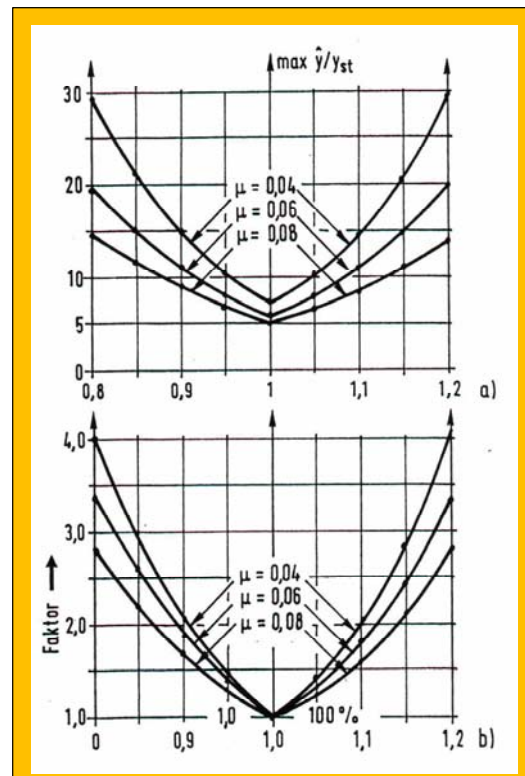
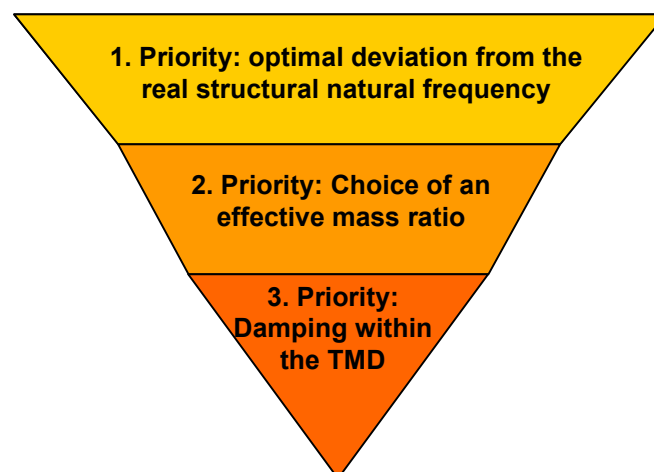

Fig. 8: Amplitude amplification factor in case the optimal deviation does not fit
Fig. 10: Priorities of three main adaptation criteria
The optimal natural frequency of the TMD is not identical with the natural frequency of the structure! The TMD frequency is out of tune to the structural frequency by a well defined value, which is the deviation with a big influence on the final efficiency of the TMD (chapter 2.1). Therefore the structural natural frequency and the kinetic equivalent structural mass has to be known. Due to the complexity of structures and the lack of knowledge of stiffness values (soil, bearings, etc.), it is usually difficult to determine exactly the natural frequency of the structure to be damped. This is valid also for the kinetic equivalent mass. In the upper part a) of Fig. 8 the value $\max \hat{y}/\hat{y}_{st}$ for the three different mass ratios 0.04, 0.06 und 0.08 is shown along the relation k/k_{opt} (on horizontal axis).
- 1) The most important criteria is the optimal deviation (Fig. 10) from the structural natural frequency. In case the TMD frequency including the defined value for the deviation is not optimally fitting to the structure, already small frequency deviations can result in major efficiency loss of the TMD (Fig. 8).